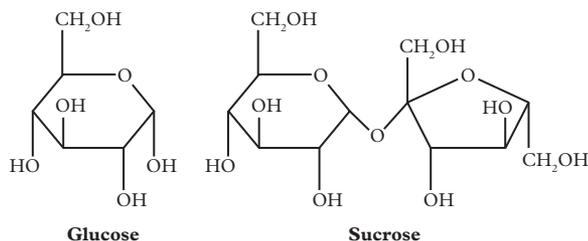
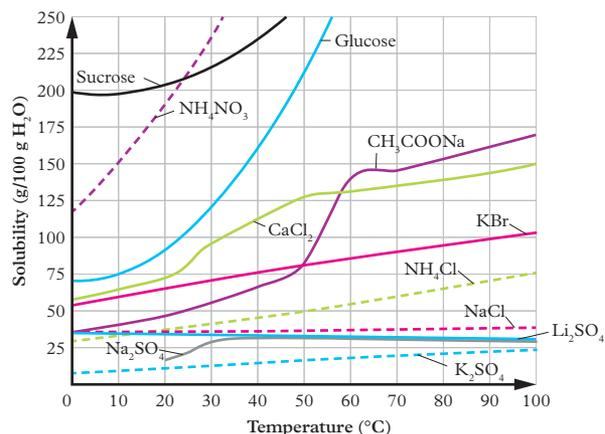

FIGURE 2 The structures of glucose and sucrose
FIGURE 3 Solubility graphs of some substances in water
- 20 The structures of glucose and sucrose are shown in Figure 2. Using the solubility graph in Figure 3 and the structures of these molecules, explain the difference in their solubility data.
- Lead(II) nitrate + sodium hydroxide
- 22 Use the solubility graph in Figure 3 to answer the following questions.